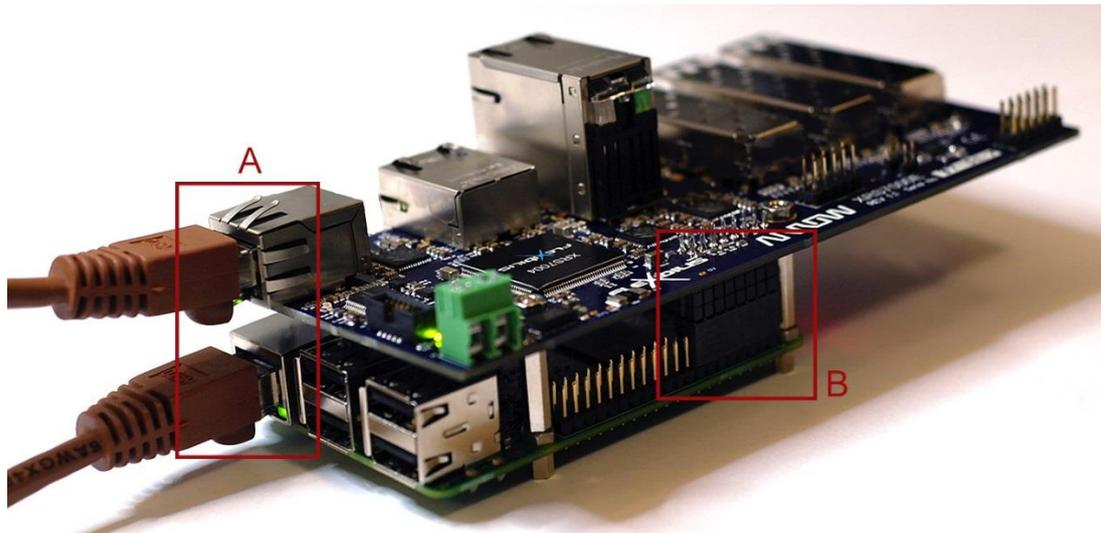

Figure 1. Raspberry Pi Connected to XRS Reference Board
- Raspberry Pi board is connected to the CPU/RPi connector of XRS Reference Board (“B” in Figure 1)
- Raspberry Pi Ethernet port is connected to XRS Reference Board Port 0 (CPU port) with an Ethernet cable. (“A” in Figure 1)